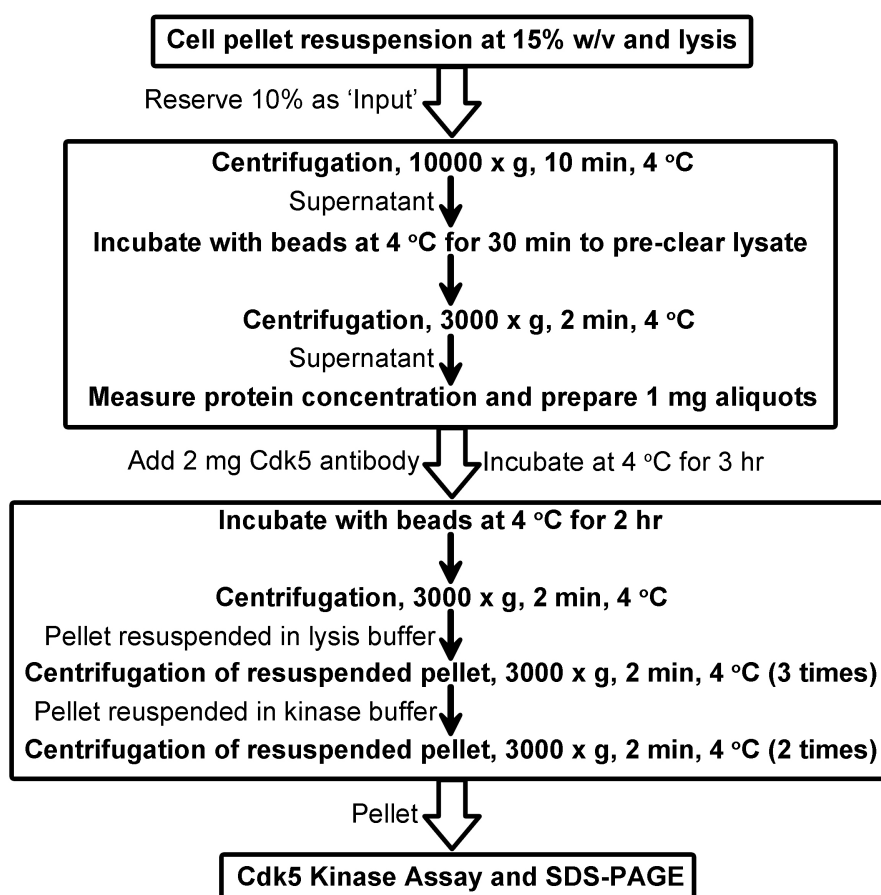

Figure 2. Scheme for immunoprecipitation of active Cdk5 complexes
17. Repeat steps C13-C16 once more (general scheme of immunoprecipitation in Figure 2).